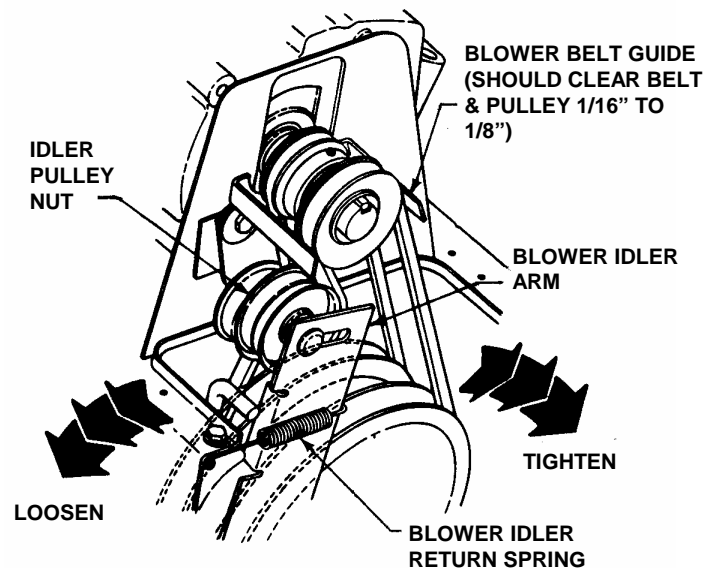

FIGURE 4.3
3. Loosen nut and bolt that secures the idler pulley. Move idler toward belt for more tension or away from belt for less tension. See Figure 4.3. Retighten bolt and nut securely.